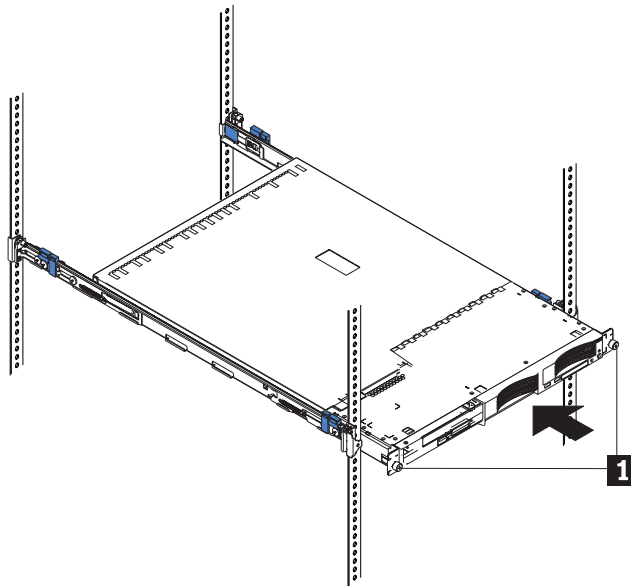

Figure 32. Installing the SAN Volume Controller into a rack
2. Fully tighten the two captive thumbscrews **1** (see Figure 32).